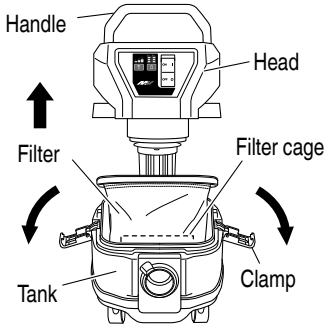

Fig. 13
- (1) Remove the two clamps, use the handles to draw up the head and remove it from the tank. (Fig. 13)